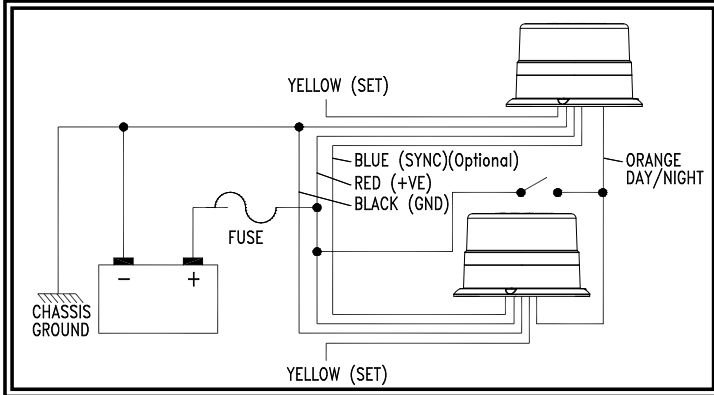

Figure 3
5. Connect the power wires as shown in the wiring section (see Figure 3).
The wiring for this configuration is as shown in Figure 3 below. All wiring should be a minimum of 18AWG. The positive line must have a 5 amp fuse, as shown. A switch can be used to control the on/off function.